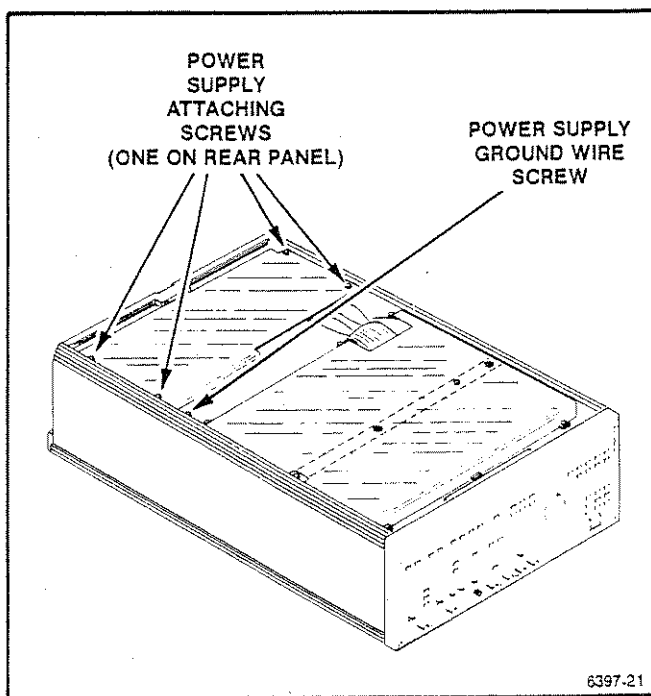

Fig. 3-7 Power supply removal
3. Remove the five (5) power supply attaching screws. There are two (2) on each side on the top of the module (Figure 3-7). The other one is located on the rear panel near the lower right corner of the power cord receptacle (Figure 3-2).
4. Remove the ground wire attaching screw (Figure 3-7). The ground wire is a green/yellow wire located at the top left front corner of the power supply module.